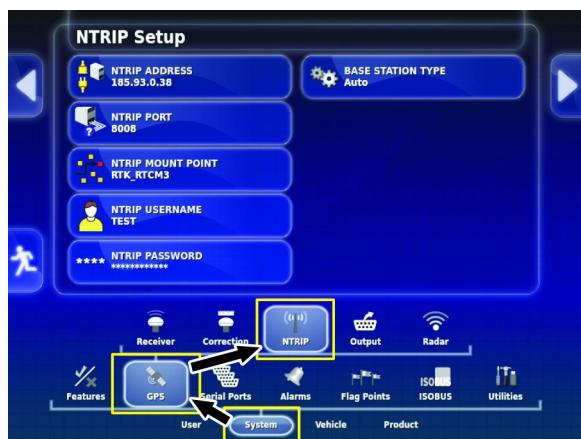

Figure 4
4. On the System Setup screen, press the SYSTEM icon (Figure 4).
5. Press the GPS icon (Figure 4).
6. Press the NTRIP icon (Figure 4).